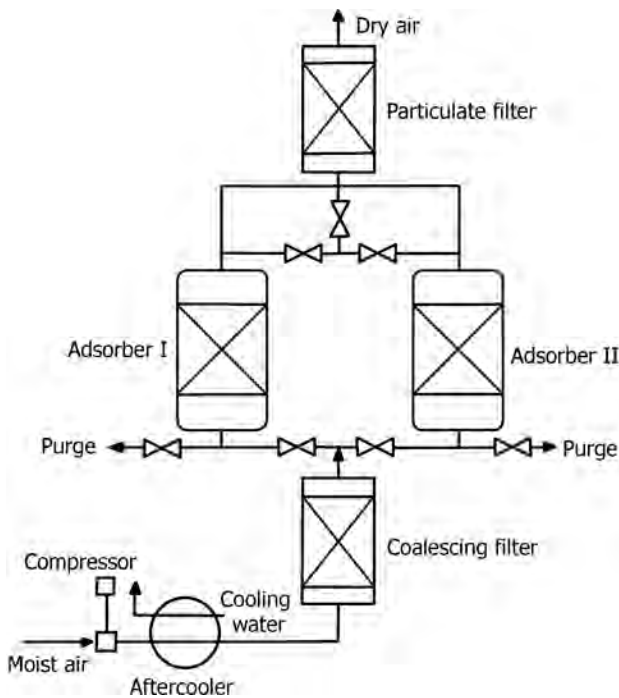

FIGURE 18.37 Pressure swing adsorption for the dehydration of air.
- The unit consists of two fixed bed absorbers for air drying as illustrated in Figure 18.37.